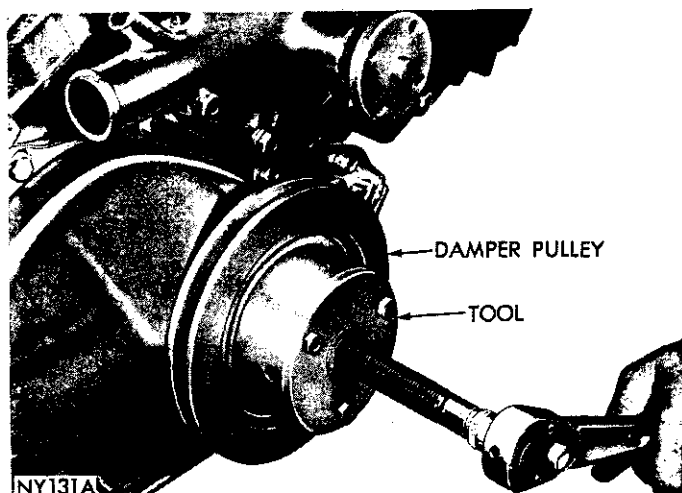

Fig. 20—Removing Vibration Damper Assembly
- (1) Drain cooling system.
- (2) Remove radiator and fan.
- (3) Install Tool C-3732A and pull vibration damper assembly off end of crankshaft (Fig. 20).
- (4) Loosen oil pans bolts to allow clearance and remove chain case cover and gasket.